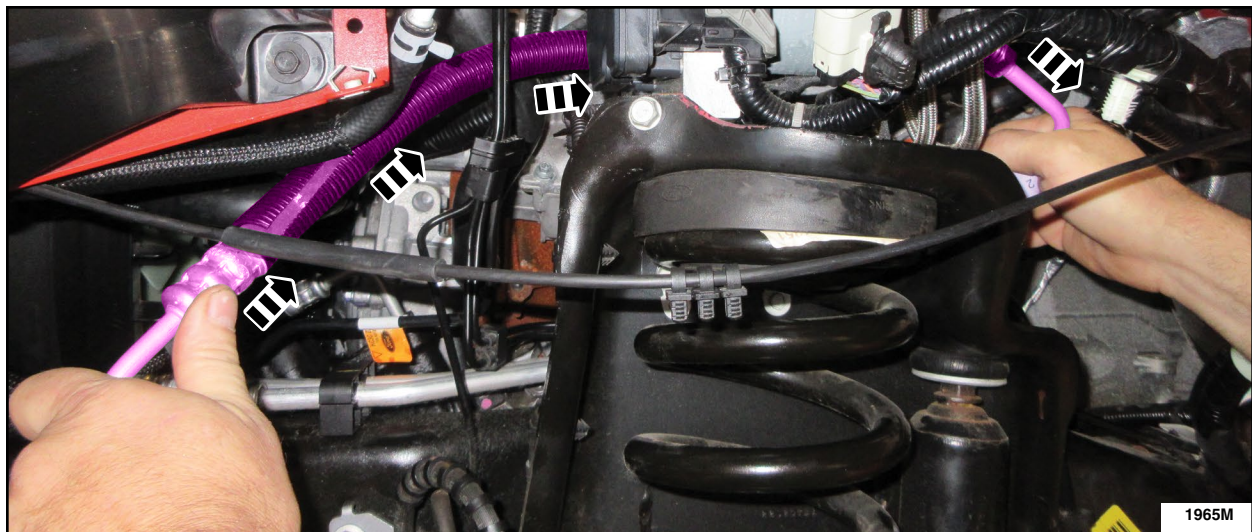

FIGURE 27
7. Working through the wheel well, route the *new* Hydro-Boost to steering gear pressure hose upwards to the pressure hose coupler. See Figure 27.